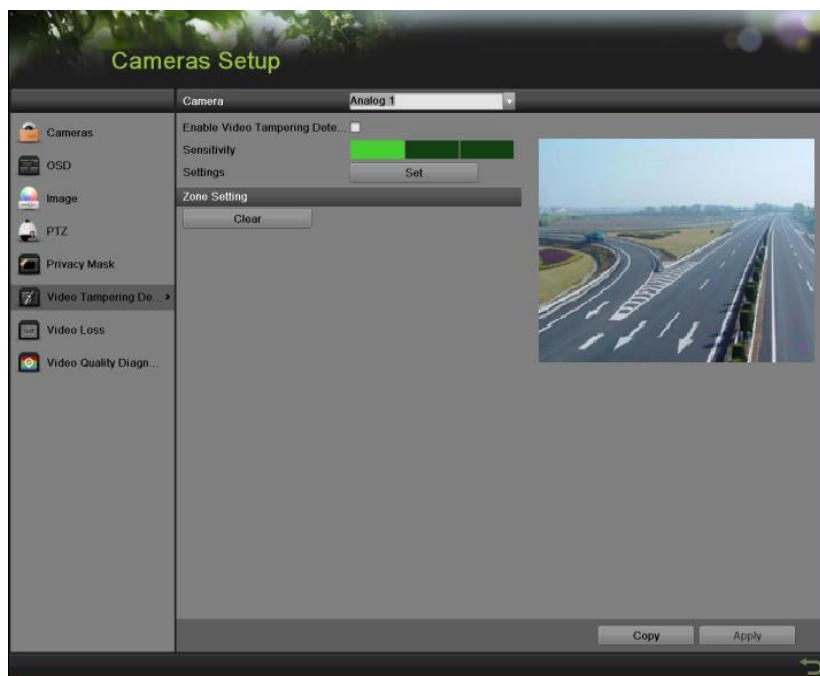

Figure 164 Video Tamper-proof Detection Menu
1. Enter the Tamper-proof menu, shown in **Figure 164** by going to Menu > Cameras Setup > Tamper-proof.